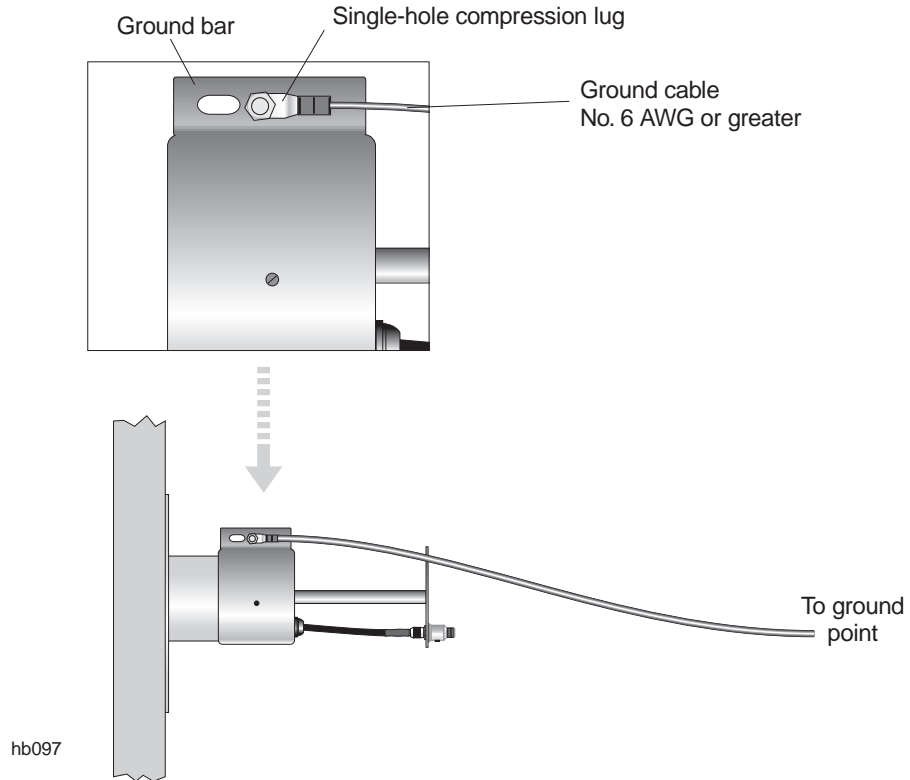

Figure 5-9 Hub lightning arrestor grounding connections
1. Connect one end of the ground cable (No. 6 AWG or greater, green) to the lightning arrestor ground bar, as shown in figure 5-9.